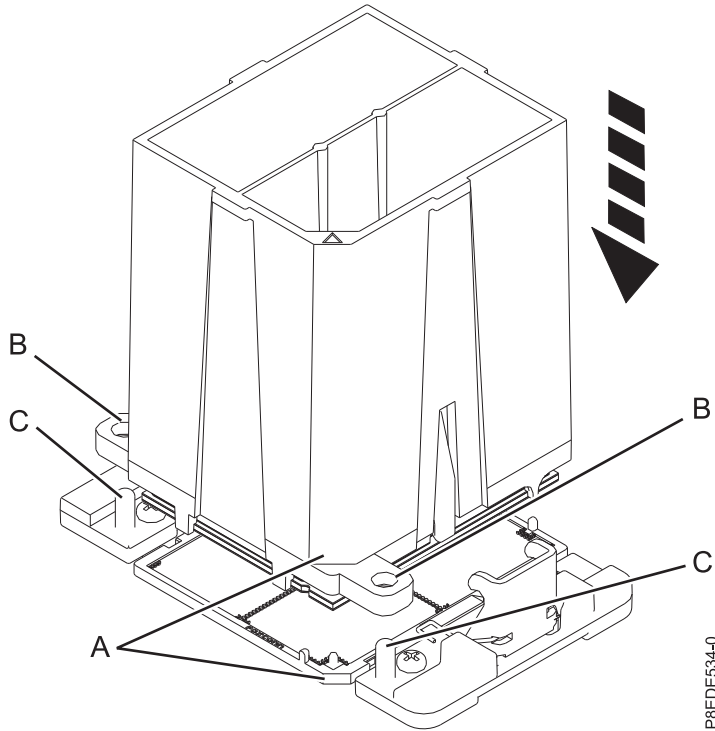

Figure 129. Installing the system processor module
- a. Lower the tool and system processor module onto the socket. Align the beveled corner (**A**) of the tool with the beveled corner on the socket. Ensure that the two guide pins (**C**) are inserted into the alignment holes (**B**) on each side of the tool. Use care to lower the tool evenly without tilting the tool. See Figure 129 on page 131.